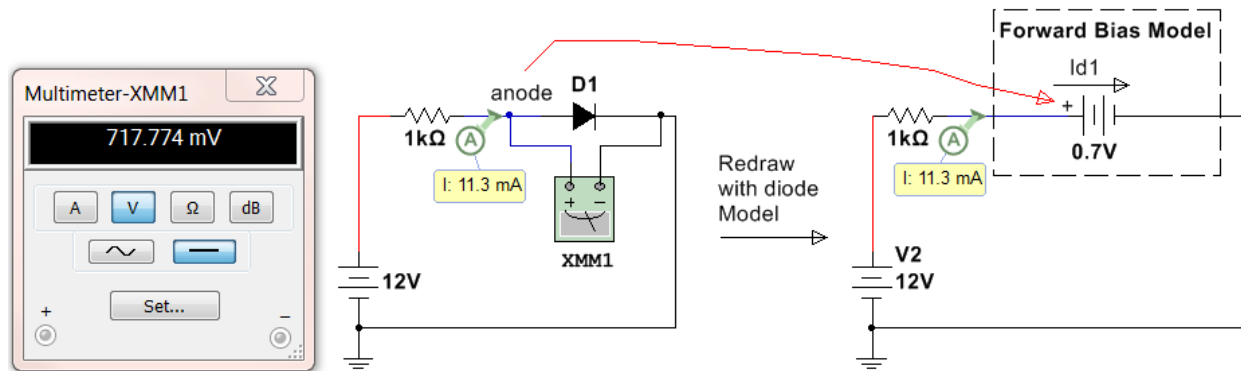

Figure 6.4: Circuit for Example 6.1
Step 2) The circuit on the right side of Figure 6.4 shows the forward bias model replacing the diode. The node where the anode was connected is connected to the + side of the battery. 0.7 V is used for the battery voltage because the problem stated it is a silicone diode. Next, calculate the current, I_{D1} .
- $I_{D1} = I_R = \Delta V / R = (12 - 0.7) / 1k\Omega = \mathbf{11.3\text{ mA}}$ (This is verified in Multisim in Figure 6.4)
Step 2) The circuit on the right side of Figure 6.4 shows the reverse bias model. **Notice the + side of the Multimeter that is measuring V_{D2} is on the same node as the anode was connected.** To solve for V_{D2} there are two possible methods.